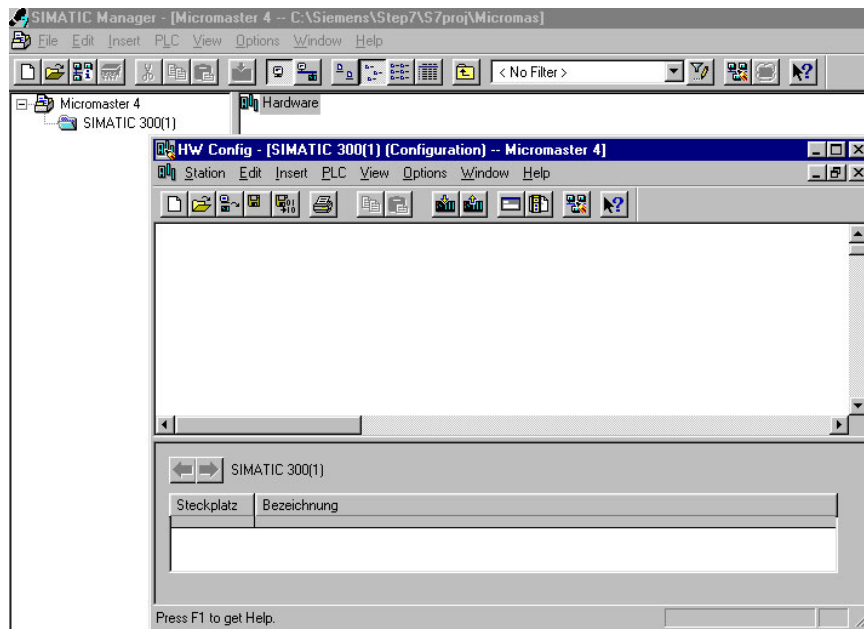

Figure 6-3 Hardware Configuration Window
6. Select the appropriate PLC type. In the example the SIMATIC 300 is selected (see Figure 6-3).
7. Highlight the SIMATIC 300(1) folder and double-click the "Hardware" icon in the Right-hand window (see Figure 6-3). The "HW Config" window is then displayed.